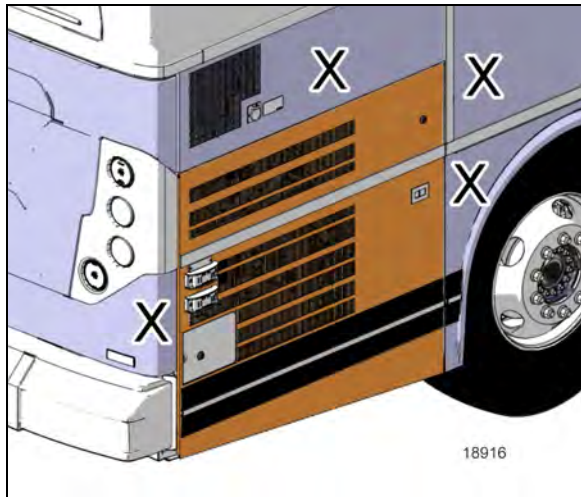

FIGURE 95: FLUSHED SURFACES
- Adjust the both rubber stoppers to make all the surfaces marked with an "X" in Figure 95 flush with the door surface within a tolerance of  $\pm 1$ mm.